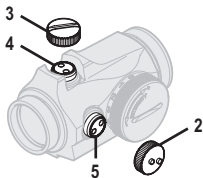

Fig. 2 Remove caps
- a Open Lens covers (11) (12).
- b Turn the Rotary switch (8) clockwise until the red dot has a suitable intensity to contrast against the target.
- c To access the Elevation adjustment screw (4) and the Windage adjustment screw (5), remove the Adjustment cap (2) and the Cap (3). See Fig. 2.